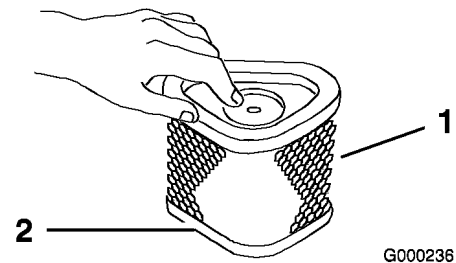

Figure 33
3. Put one or two ounces of oil on the element (Figure 33). Squeeze the element to distribute the oil.